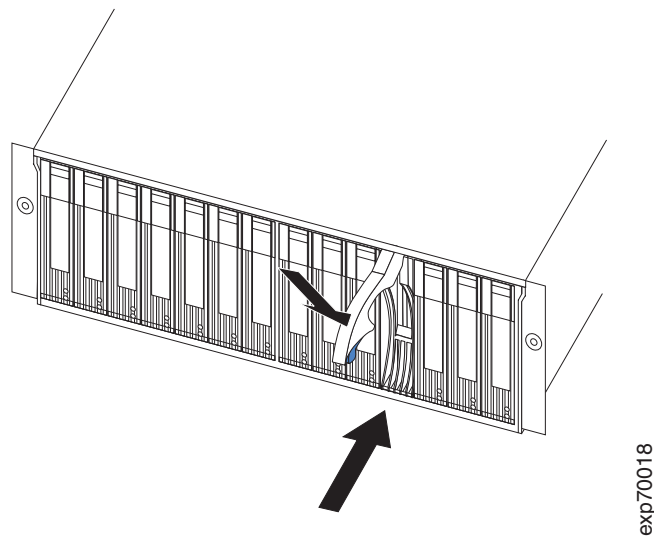

Figure 58. Closing the hot-swap hard disk drive tray handle
- d. Push the tray handle down into the closed (latched) position, as shown in Figure 58.
- b. Push the tray handle down into the closed (latched) position, as shown in Figure 58 on page 77.